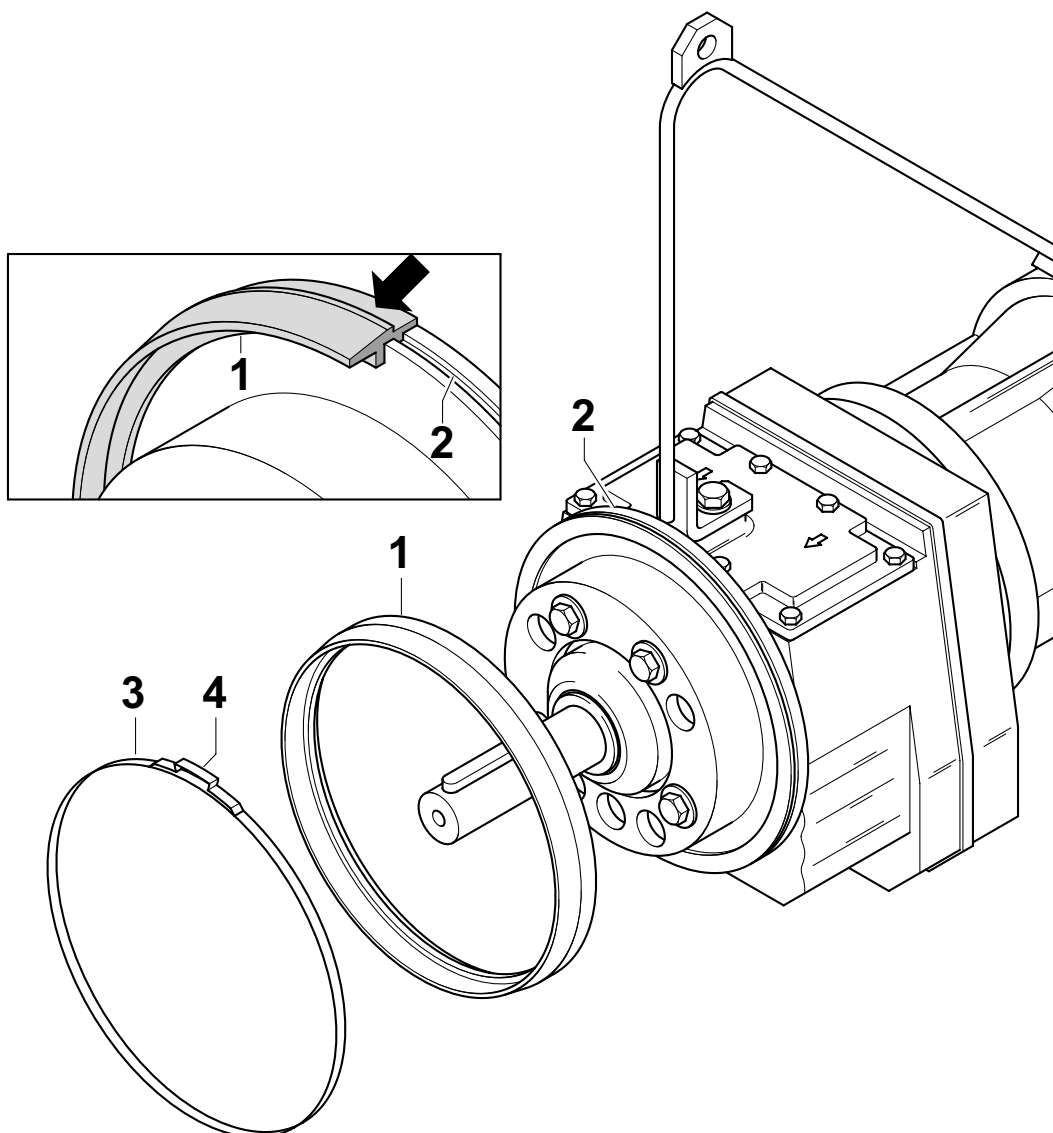

Figure 19 SD-ring removal/assembly
**NOTE** In Figure 19 the exchange of the SD-ring on a RW mixer motor is shown. The installation on the flow booster is similar.
- When refitting the SD-ring (19/1), this should be pressed around its circumference by hand as shown in Figure 19 and pressed down into the groove of the motor cover.